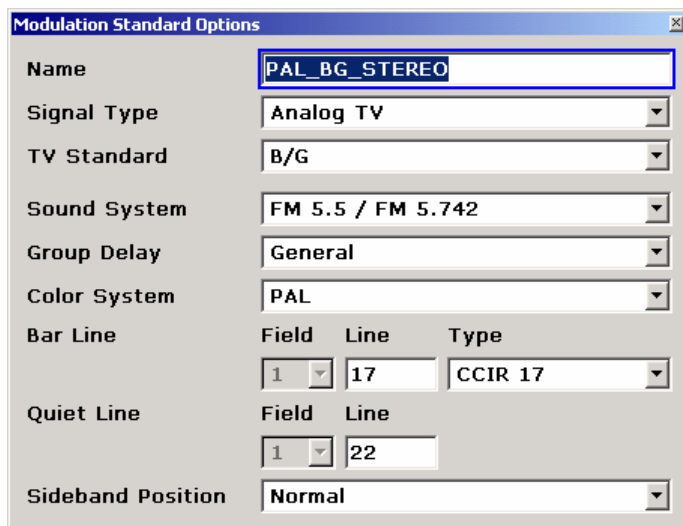
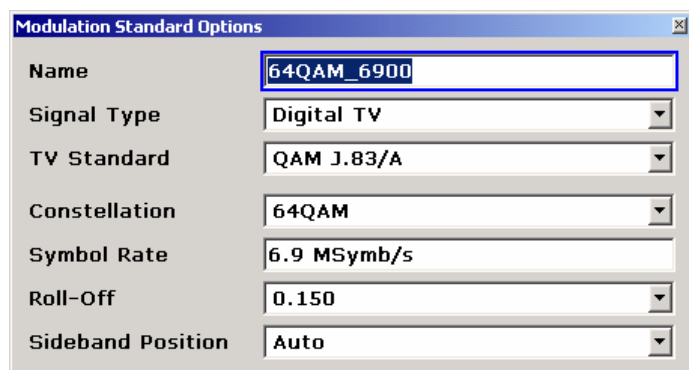

Fig. 2-62 **Modulation Standard Options** dialog box for analog TV
Fig. 2-63 **Modulation Standard Options** dialog box for digital TV
For detailed information on channel tables refer to section Channel tables, for modulation standards refer to section Modulation standards. A detailed example is provided in section Example: Creating a channel table. Fig. 2-60 gives an example of a channel table that references the modulation standard "PAL_BG_STEREO". Fig. 2-62 shows that modulation standard.
Most important when dealing with modulation standards is the order of the parameters. Modulation standards (see Fig. 2-62) have always to be created and edited from top to bottom of the **Modulation Standard Options** dialog box. The most important parameters are located at the top of the dialog box. For example, changing the signal type from **Analog TV** to **Digital TV** also alters the complete set of parameters below. Whereas the modulation technique for transmitting the color information is essential in analog TV systems (see **Color System** in Fig. 2-62), it does not exist for digital TV systems. The constellation instead is crucial in digital TV systems (see Fig. 2-63). For that reason the Cable TV Measurements option automatically guides you through the whole process of creating a new modulation standard and only confronts you with mandatory parameters.
For analog TV the **Modulations Standard Options** dialog box (see Fig. 2-62) is structured as follows:
- The channel table references modulation standards by their **Name**. Its name (see Fig. 2-63) should comprise information about the used TV standard, the color system and the sound system, e.g. "PAL_BG_STEREO".
- The channel table references modulation standards by their **Name**. Its name (see Fig. 2-63) should comprise information about the used constellation and the symbol rate, e.g. "64QAM_6900".